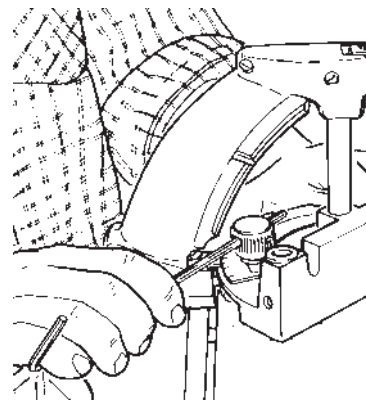

Figure B-124
2. When the miter gauge is in the desired position, spin the knob tight and insert the long 5/32" Allen wrench in one of the holes in the knob to tighten it an extra 1/4 turn. See Figure B-124.